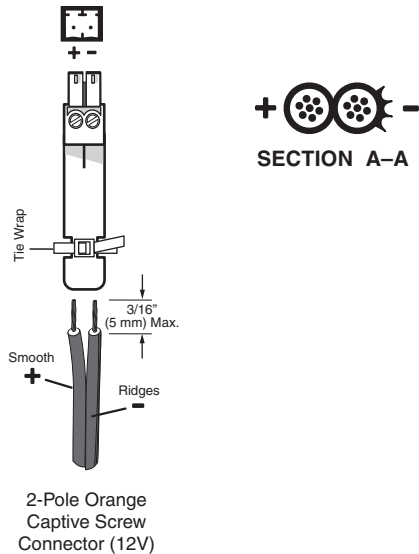

Figure 13 — Power connector wiring
- ① **Input connector (SEQ 100 15HD)** — Connect input VGA or RGB video to this female 15-pin HD connector.
- ② **Output connector (SEQ 100 15HD)** — Connect a VGA or RGB video device to this female 15-pin HD connector.
- ③ **Power connector** — Plug the included external 12 VDC power supply into this 2-pole captive screw connector. Figure 13 shows how to wire the power connector.
CAUTION Power supply voltage polarity is critical. Incorrect voltage polarity can damage the power supply and the SEQ. Identify the power cord negative lead by the ridges on the side of the cord (figure 13).